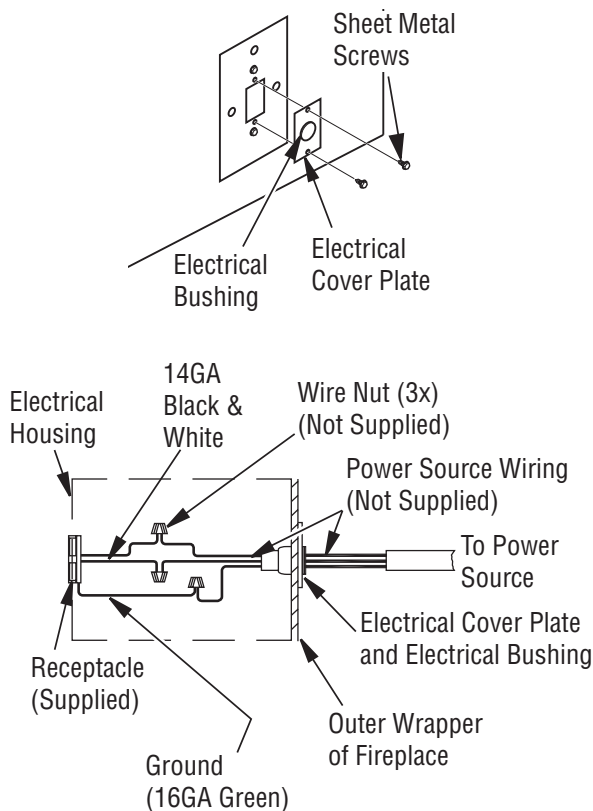

Figure 9 - Connecting Electricity
1. Remove electrical cover plate with bushing from left side of fireplace front by removing 2 sheet metal screws as shown in Figure 9.
3. Slide all wiring connections in electrical housing as shown in Figure 9.